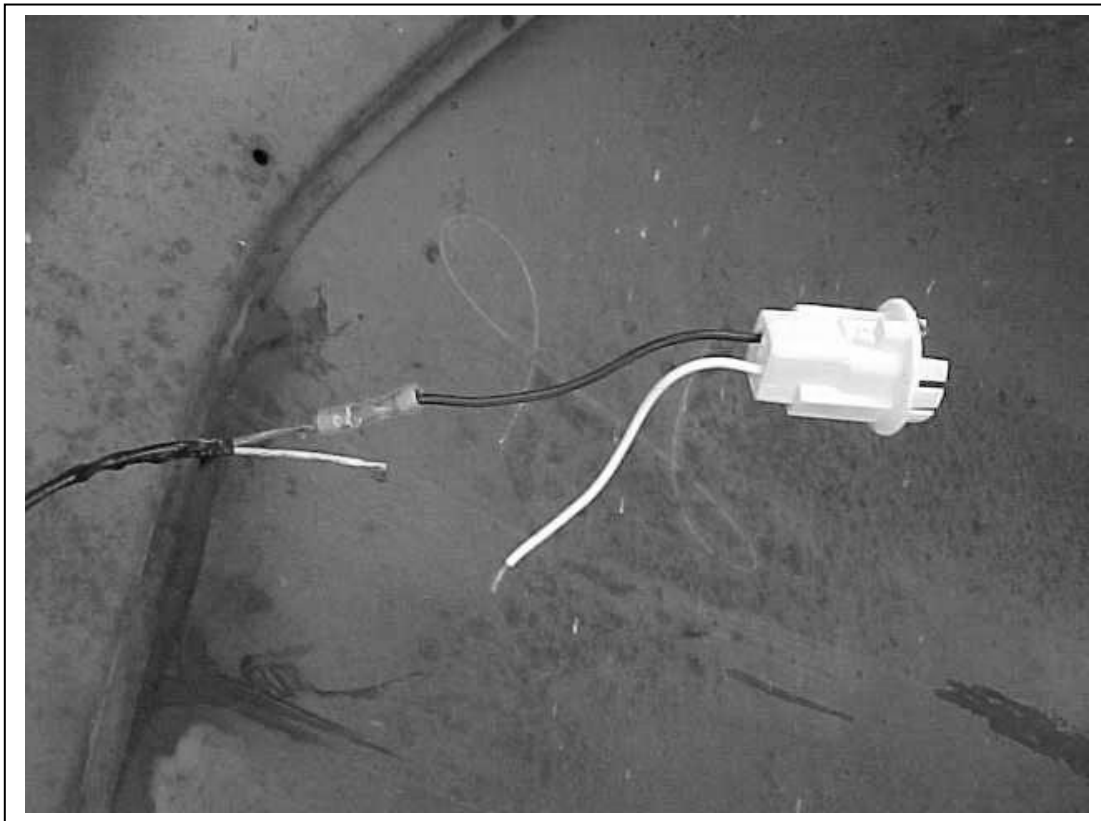

Figure 6.10 Strip and crimp your wires. **CAUTION: DO NOT OVER CRIMP.**
- 6.4.4 Strip insulation away from wire. Strip only enough necessary for the type of terminal lug you are using. As shown in **Figure 6.10**.